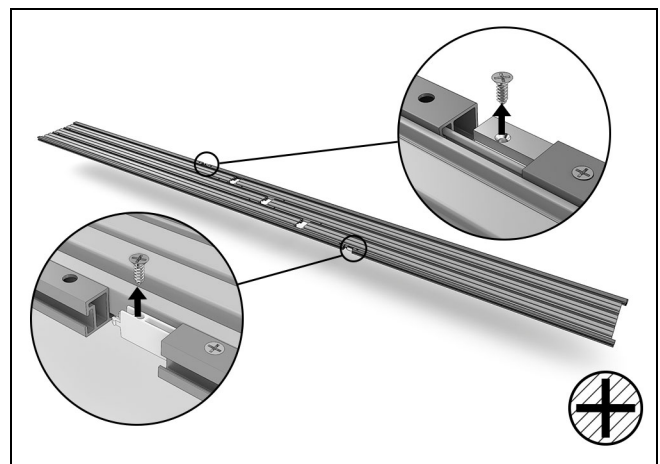

Figure 20
5. Remove the screws from the splice keys. See Figure 20.